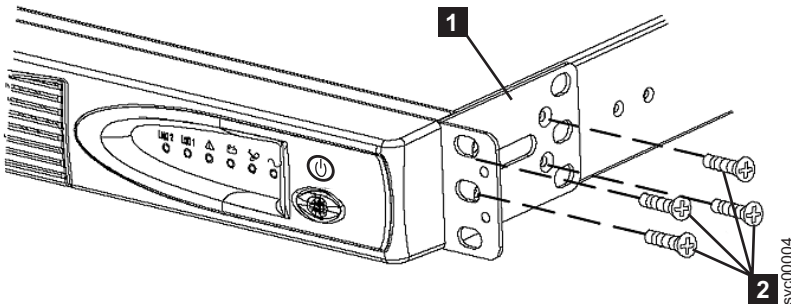

Figure 304. Installing the support rails for a 2145 UPS-1U into the rack
2. On each side of the 2145 UPS-1U, attach the long end of a mounting bracket to the 2145 UPS-1U using four of the supplied M3 × 6 screws ( **2** in Figure 304).